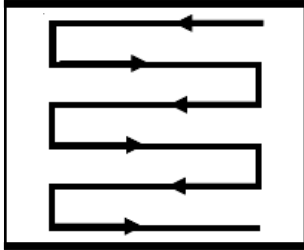

Fig. 10
- 12). Work in slight overlapping rows. The most effective pattern for scarifying/raking lawns is straight lines along one of the sides. This will keep the rows even and ensures that all the lawn is scarified/raked without missing any spots. (See Fig. 10).